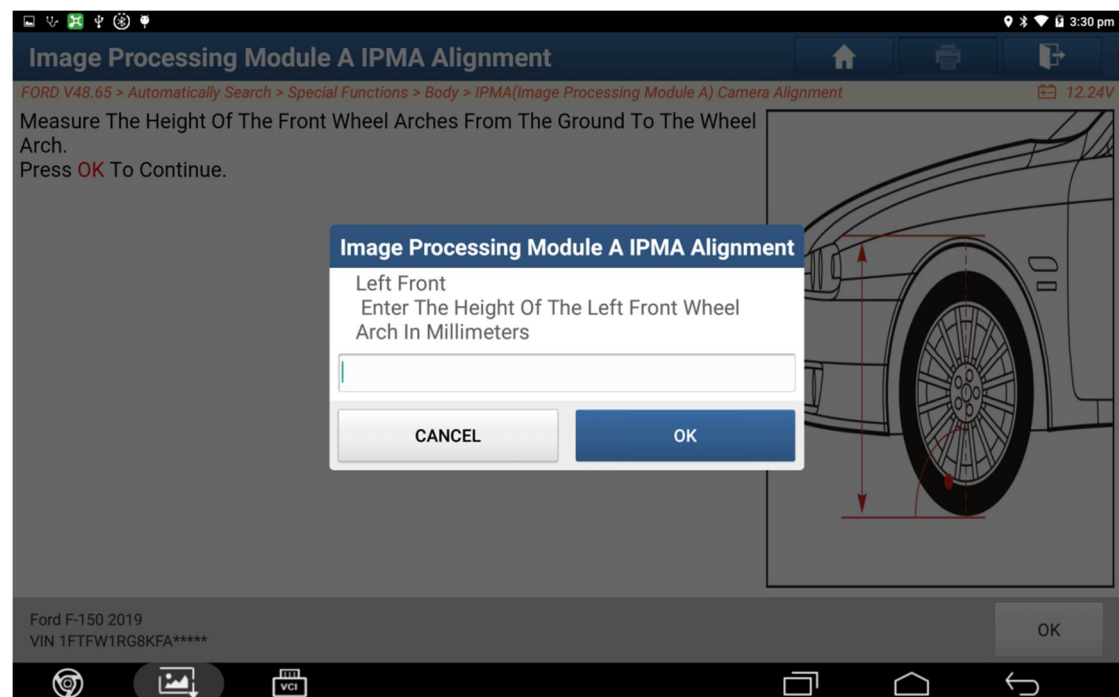
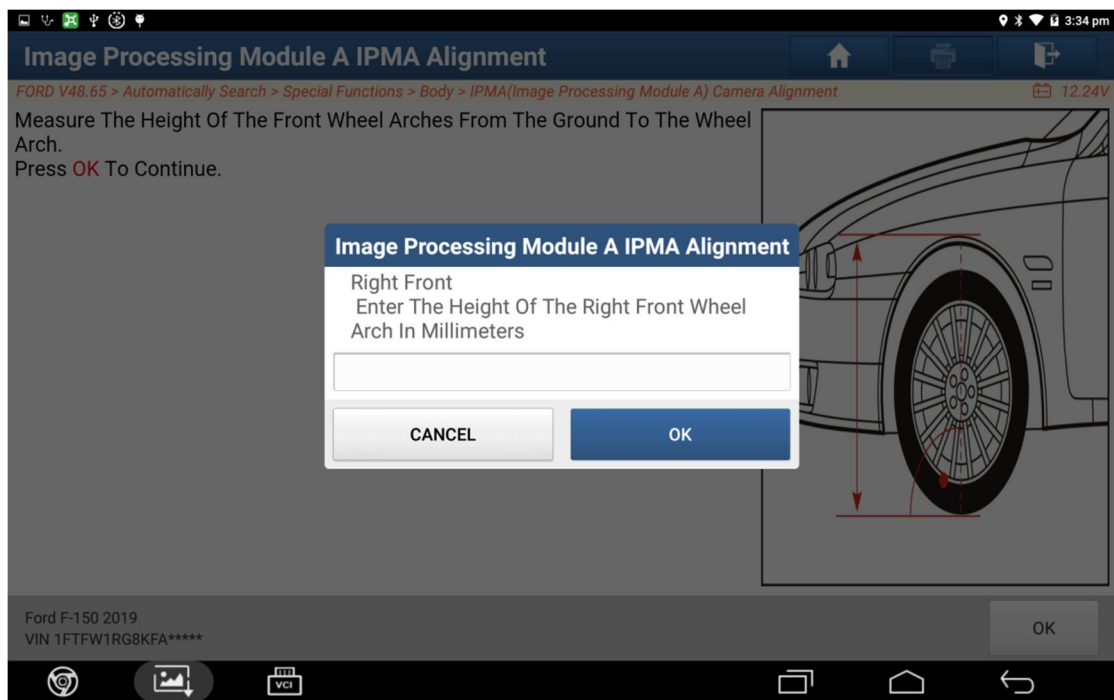

Figure 13
Figure 14
12. Prompt to enter the measured values of front left and front right wheel arches (Figure 13, Figure 14).